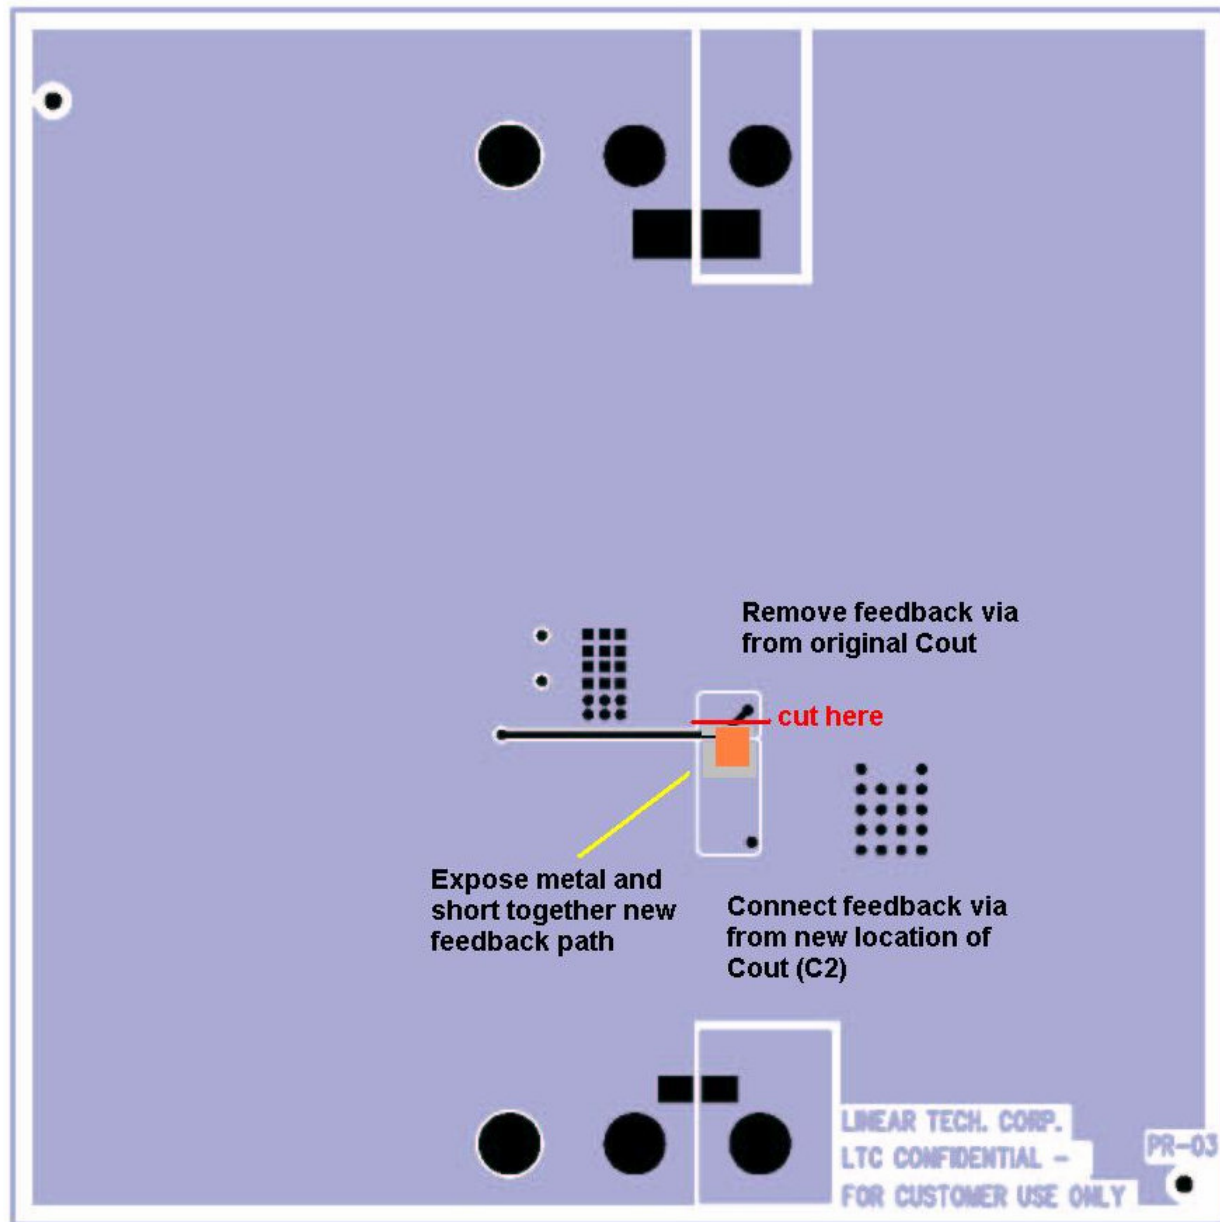

Figure 20. DC533A SEPIC customization backside feedback path alteration
- Feedback path on back is altered (Figure 20)
The path from V_{OUT} to the feedback resistors is on the backside of the board. In the boost application, the feedback via is located at the top of C2. When C2 is moved to a new location for the SEPIC, the feedback path must also move. The backside of the board must be slightly altered to source the output voltage measurement from its new location and still monitor feedback from V_{OUT} . Figure 20 shows how the old feedback via must be cut from